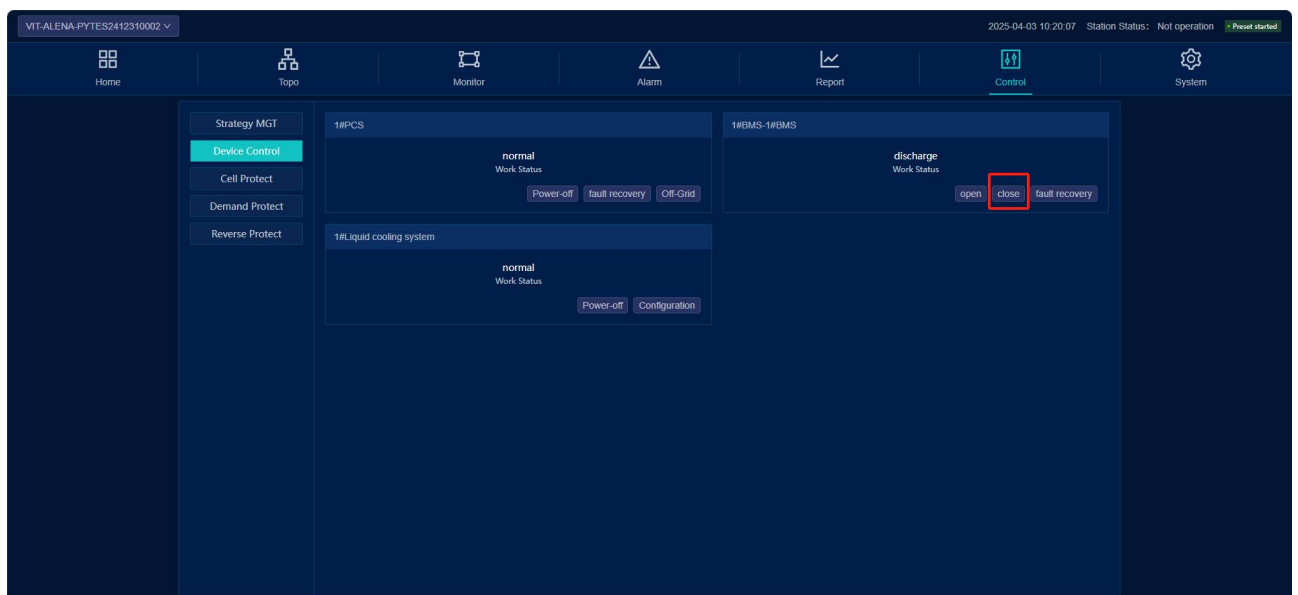

Fig.6.8 Close the high pressure box contactor
Step 7: Login to the cloud platform and close the contactor of the high-voltage box in "Control Center - Device Control - BMS", as shown in Figure 6.8.